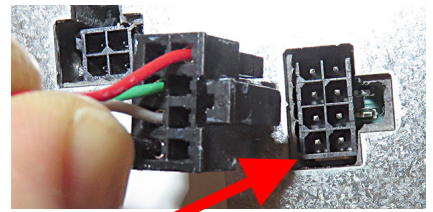

Figure 25
30. Attach the harness with the 8-pin male connector, from step 22, to the 8-pin female connector on the rear of the MIB board (see Figure 25).